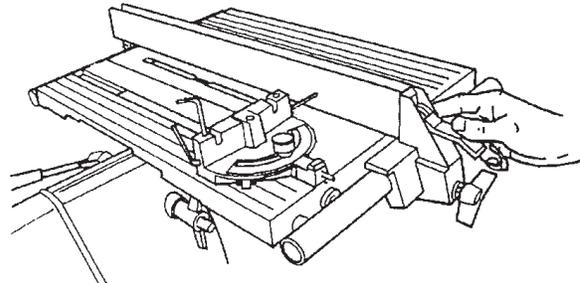

Figure B-95
74. Move the rip fence toward the Allen wrench until it just touches it, as in Figure B-95.
75. Lock the base knob and handle on the base to secure both ends of the rip fence. See Figure B-95.